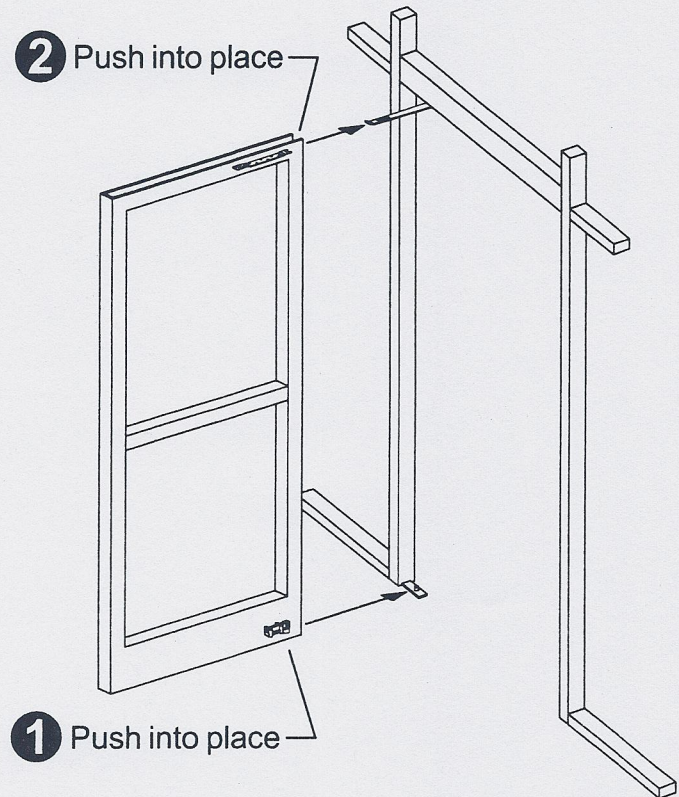

Figure 11-5
11.4. Position the door so the arm is in the top channel of the door and gently slide the door up against the lower pivot (Figure 11-5).